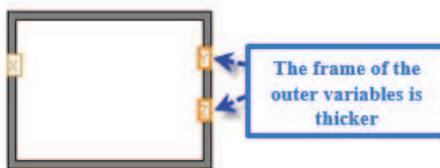

Figure 2.177: Outbound Variables are Thicker Than Inbound Variables
- Outbound variables are **thicker** than inbound variables, as shown in figure 2.177.